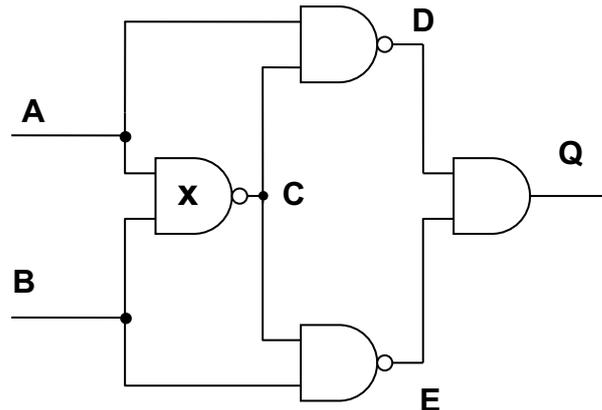

Fig. 9(a)
- 9 (a) A logic circuit using four logic gates is shown in **Fig. 9(a)**.
- (i) Name the logic gate labelled **X** shown in **Fig. 9(a)**. [1]